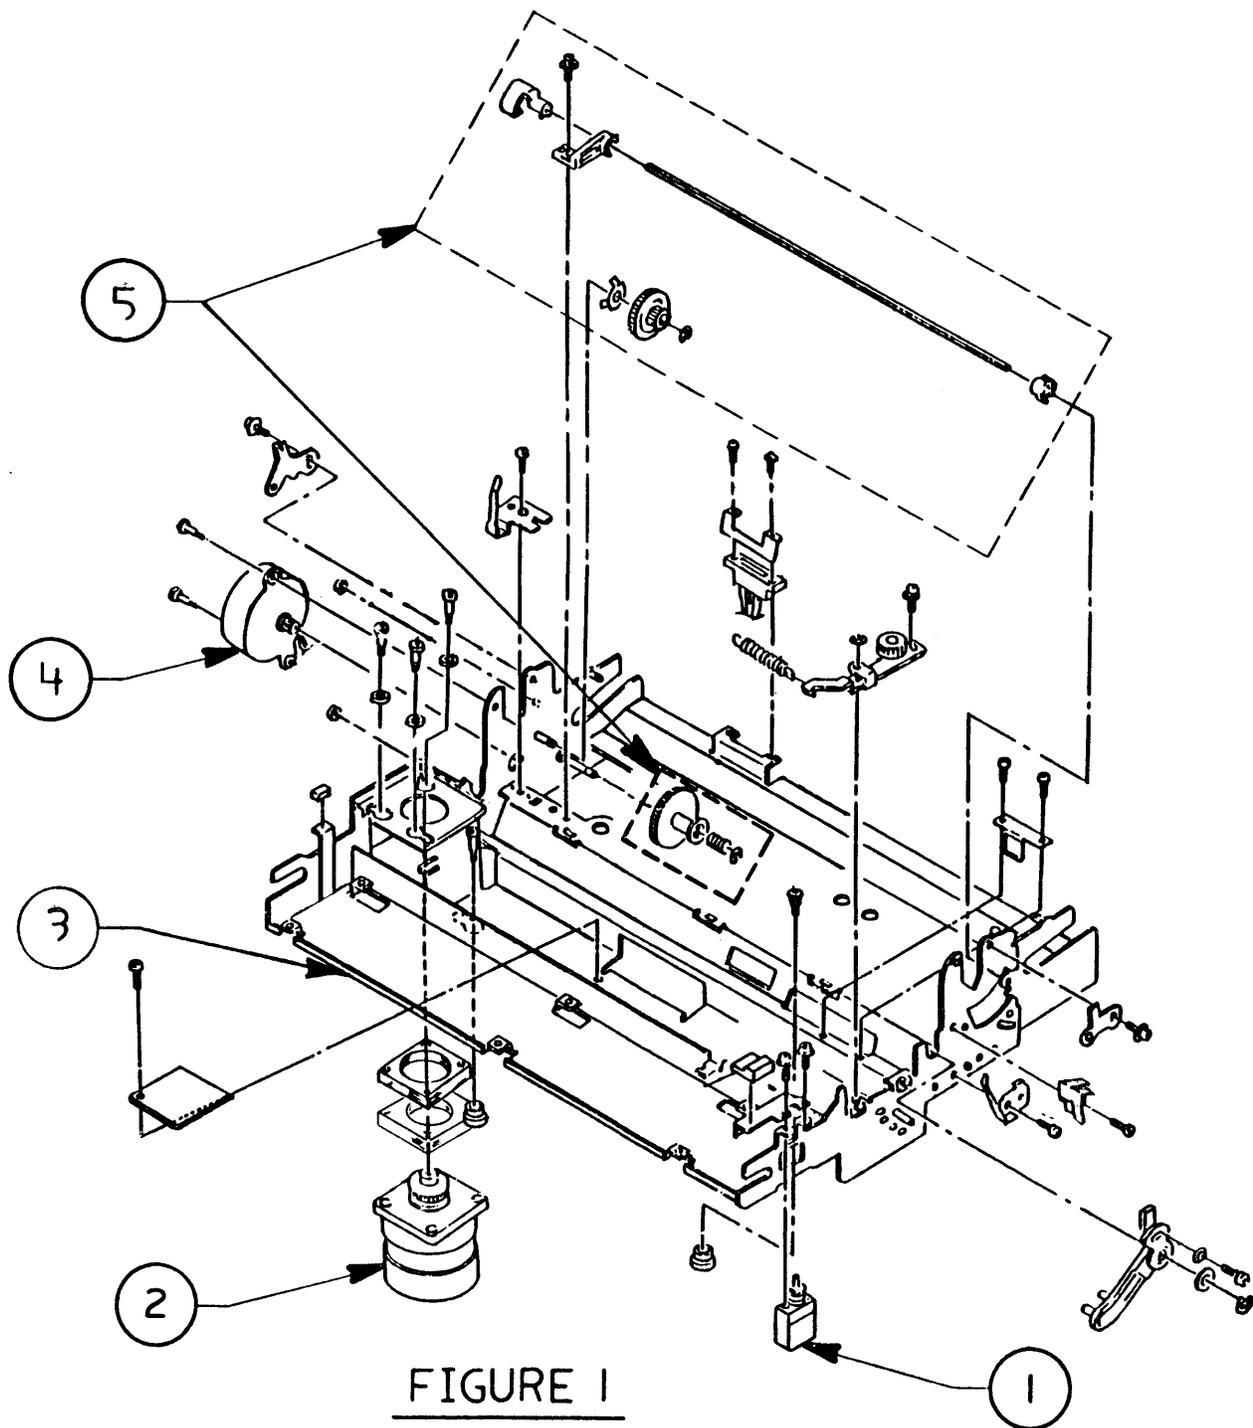

FIGURE 1
□ FRAME (Figure 1)
The following screws, e-clips, etc., are used in the parts shown in Figure 1: